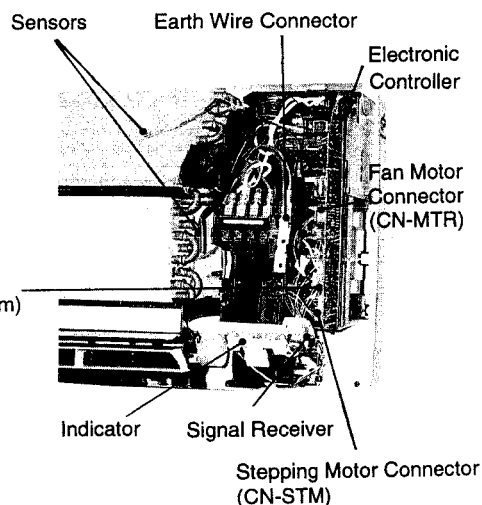

Fig 1.
1. The Electronic Controller, a signal Receiver and an Indicator can be seen by removing the Front Grille and Control Board Cover, as shown in the Fig 1.
1. Remove the connector CN-MTR (GREEN) of Fan Motor and connector CN-STM (GREEN) of stepping motor from the electronic controller. Release the earth wire (YELLOW-GREEN) from the control board and sensors from its holders. (Refer Fig 1.)